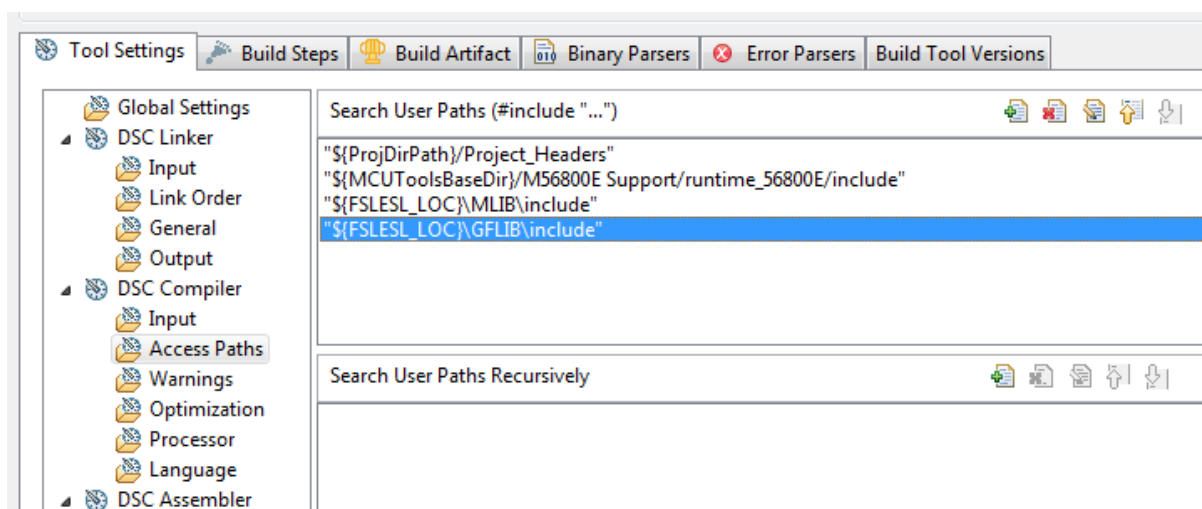

Figure 1-13. Compiler setting
18. Now you will see the paths added in the box. See Figure 1-13. Click OK.